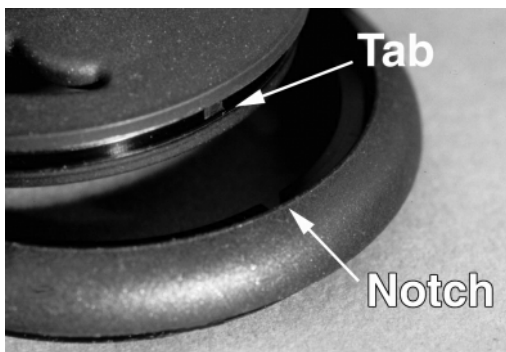

Fig. 11 – Purge Cover Alignment
3. Lay the purge cover(1) over the top of the color ring(2) with the logo facing up, and align the indexed tab on the side of the purge cover with the slot inside the center of the color ring (see Fig. 11). Press the purge cover into the color ring, beginning with the indexed tab. When done, check to ensure that it is seated evenly around its entire circumference.
4. Lay the diaphragm(4) inside the box bottom, directly over the lever, with its raised center facing up. Check to ensure it is evenly seated over the shoulder on all sides at the base of the threads. Then, place the retaining ring(3) directly over the diaphragm with the raised shoulder facing up, and press it firmly downward to ensure it is seated evenly on all sides at the base of the threads.